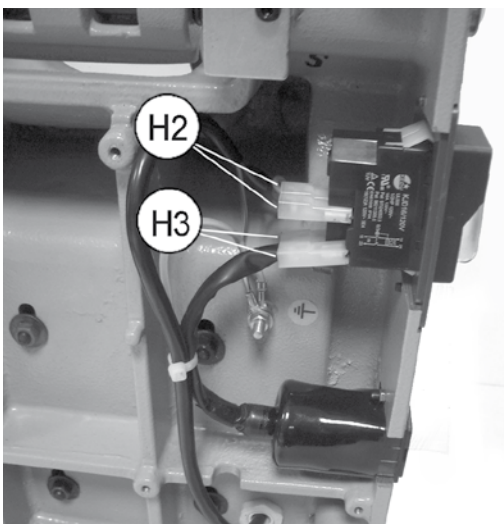

Fig.36
- 2) Detach the 4 connectors (H2) and (H3) paying special attention to their position (Fig.36).